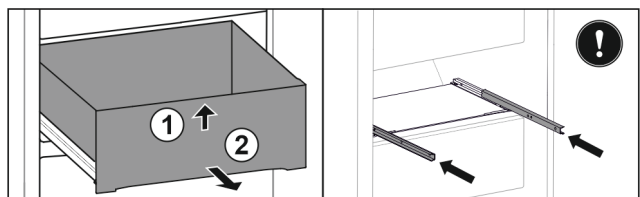

Fig. 53
- ▶ Lift up drawer at the front. Fig. 53 (1)
- ▶ Remove drawer to the front. Fig. 53 (2)